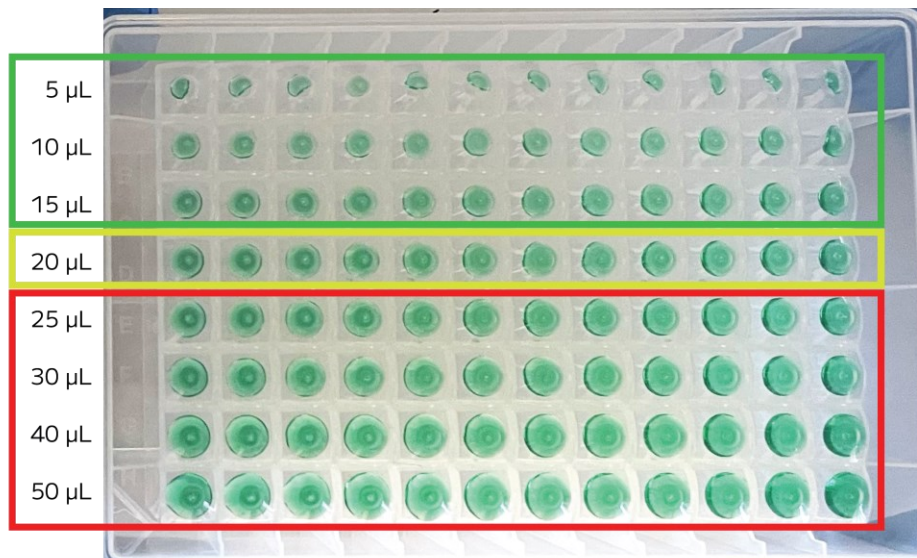

Figure 4: Bottom view of a deep well plate with different volumes of residual supernatant.
- Less than 20  $\mu$ L of supernatant should be left in each well after steps 10 and 30 in Section 2. Figure 4 shows different volumes of supernatant when viewed from the bottom of the deep well plate.